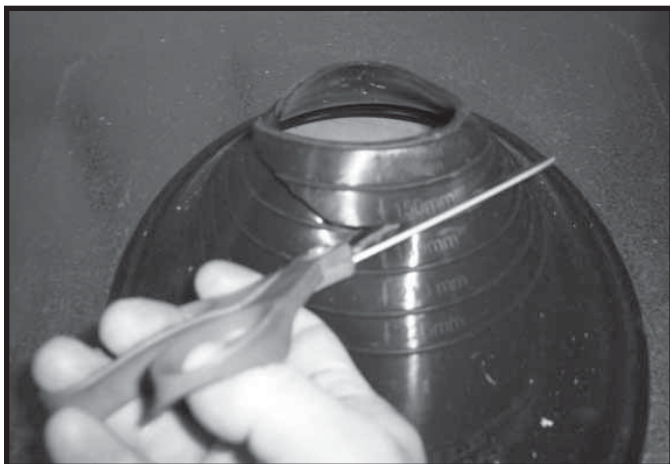

Figure 10.16 Trim Rubber Boot
- Trim the rubber boot (using scissors or a utility knife), cutting along the marked measurement lines. See Figure 10.16. Use the 150 mm line for SLP.